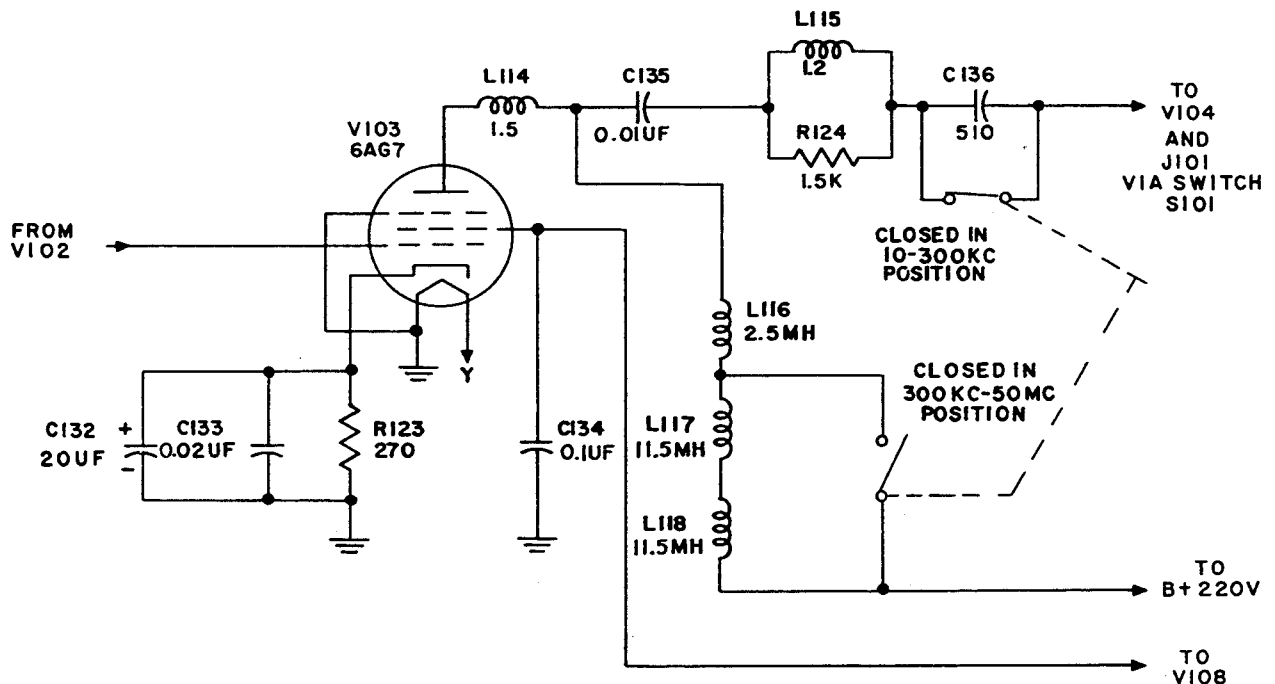

Figure 2-4. Simplified Schematic Diagram of the Output Amplifier Stage
d. OUTPUT AMPLIFIER (See figure 2-4).
The output amplifier uses a power pentode type 6AG7, (V103). Bias for this stage, operating Class A, is obtained by the voltage drop across cathode resistor (R123). In order to bypass this resistor properly at all signal frequencies generated, capacitors C132, 25 uf, and C133, .02 uf, are used in parallel combination. The signal to be amplified, which may be modulated by an internally or externally generated audio frequency, appears at the grid (pin 4) of the tube (V103). The plate output circuit contains three major branches; first, the plate voltage is shunt-fed through the r-f chokes L116, L117, and L118 (Fig. 2-4). Next there is a series compensating network consisting of L114, L115, and its damping resistor (R124). C135 is simply a coupling capacitor. The 500 ohm resistor (R130) and the 55.56 ohm input impedance of step attenuator (AT101) in
(See figures 2-4 and 2-8).